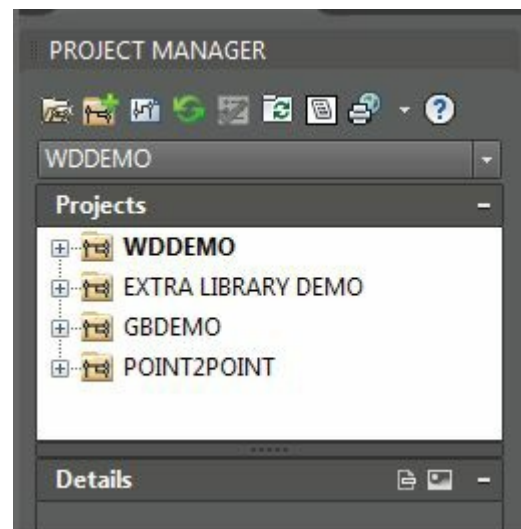

Figure-4. Project Manager
- To be able to use all the tools in the **Project Manager**, open a drawing file or create a new one. The deactivated tools in the **Project Manager** will become active; refer to Figure-4.